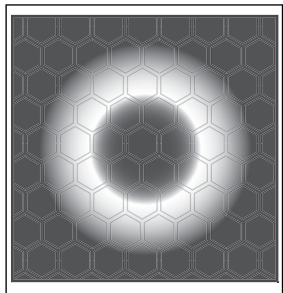

Fig 10b
red LED flashes if the centre of the beam falls in the area shown as a light ring in **Fig 10b**. The nearer the centre the quicker the flash rate.
2. Pan and tilt the beam detector, by turning the thumbwheels, until the centre of the beam hits the part of the reflector shown in **Fig 10b**, causing the red LED to flash. It does not matter which way you move the detector. If moving in one direction does not cause the red LED to flash, move the other way.